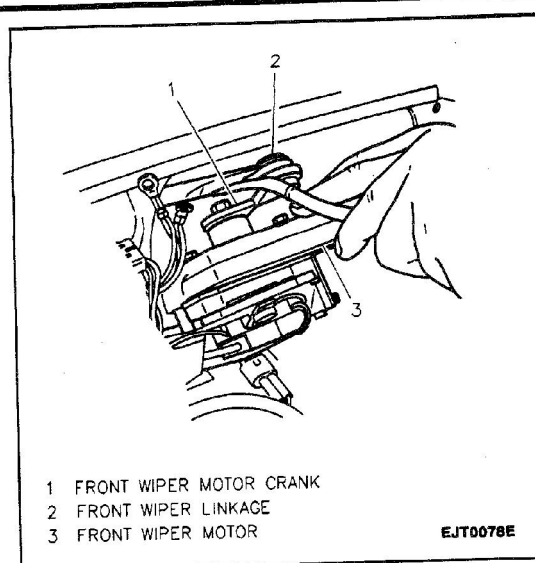

Figure 9—Disconnecting Front Wiper Linkage From Front Wiper Motor
12. Gently pry front wiper linkage from front wiper motor crank arm (Figure 9).
4. Gently pry front wiper linkage from front wiper motor crank arm (Figure 9).